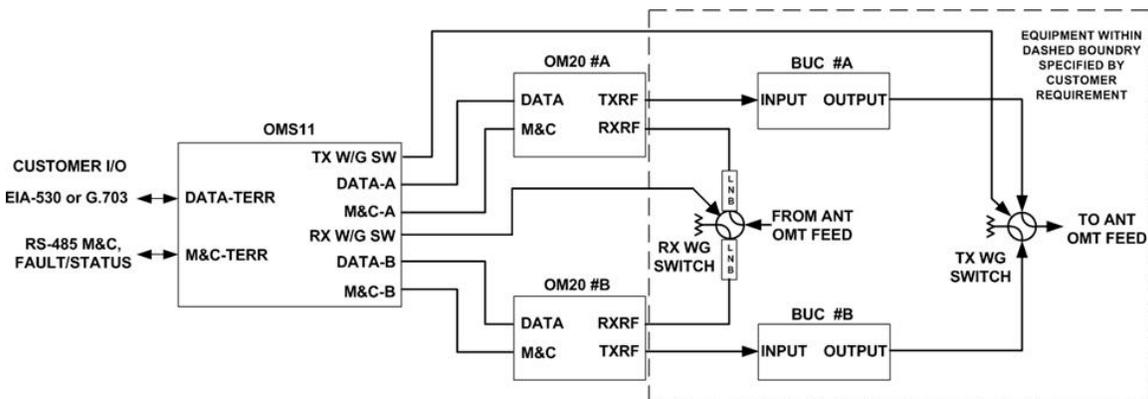

Figure 2-1 Functional Block Diagram
The Radyne OMS11 Outdoor Modem Switch provides redundancy protection for the OM20 Outdoor Modem, BUC and LNB. The OMS11 redundancy system is based on a Chain switching system that switches the IF/RF primary path to the IF/RF Backup path. The Chain Switching system can include BUCs, LNBs, Waveguide, Waveguides Switches, mounting hardware and connecting cables. BUCs, LNBs, Waveguide Switches and Mounting hardware are optional items that can be supplied with the system. Refer to Figure 1-1 for an illustration of the OMS11 1:1 Redundancy Switch Front Panel and Figure 2-1 for the OMS11 Functional Block Diagram.
A block diagram of the signal flow is shown in Figure 2-1 below.
2.1.3 Front Panel Controls (Refer to Figure 2-1)